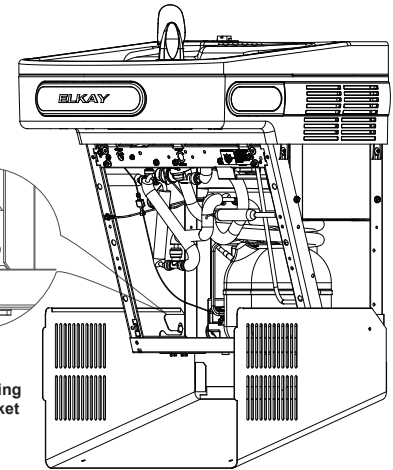

Fig. 5
3. When re-attaching wrapper, ensure each side of wrapper is engaged to pivoting bracket (see Fig. 5).